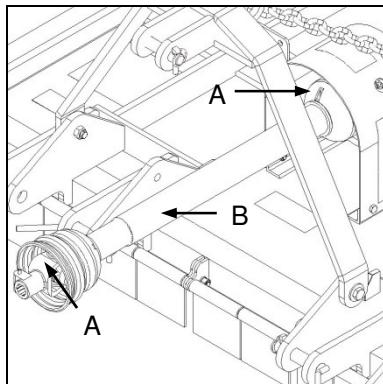

Fig. 5
- ✓ Apply grease to the universal joints (Fig. 5-A) and telescopic tubes (Fig. 5-B) of the PTO drive shaft.
- ✓ Ghries die kruiskoppelings (Fig. 5-A) en teleskopiese buise (Fig. 5-B) van die kragaftakkeras.